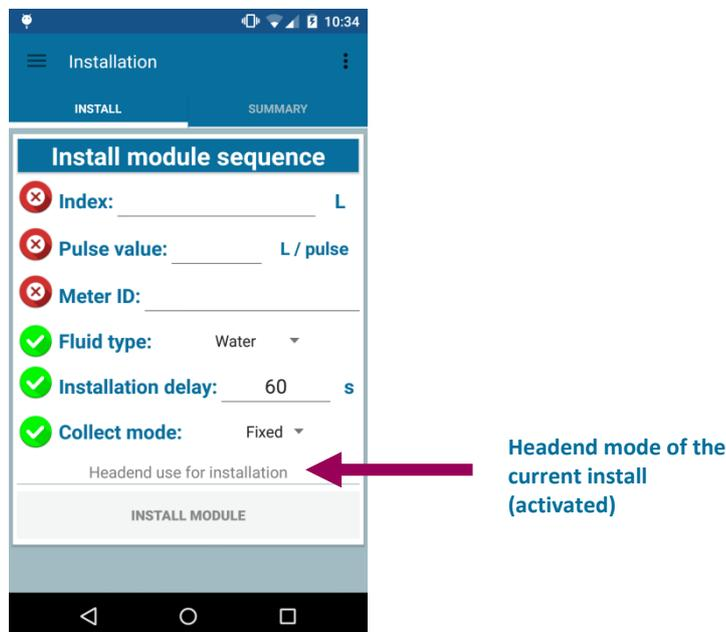

Figure 10: Headend use for installation label
- Check on the display that the Headend is used for the installation (see Figure 10)